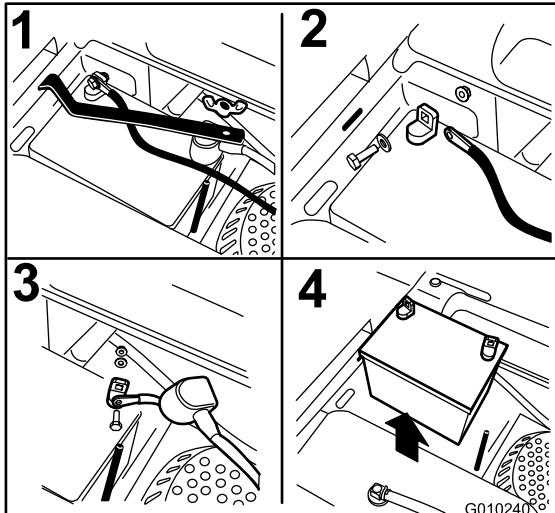

Figure 42
- Remove the wing nut securing the battery clamp (Figure 42).
- First disconnect the negative battery cable (black) from the negative (-)(black) battery terminal (Figure 42).
5. Slide the red terminal boot off the positive (red) battery terminal and remove the positive (+)(red) battery cable (Figure 42).
6. Remove the clamp (Figure 42).
1. Position battery in the tray with the terminal posts opposite from the hydraulic tank (Figure 42).
4. Secure the cables with 2 bolts, 2 washers, and 2 locknuts (Figure 42).
6. Install the clamp and secure it with the wing nut (Figure 42).